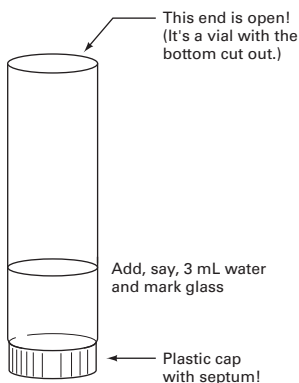

FIGURE 5.7 Calibrating the gas collection reservoir.
1. Put a cap on your **gas collection reservoir**. You can calibrate the tube by adding 2, 3, or 4 mL of water and marking the tube. Some have calibration lines. Check it out (Fig. 5.7).